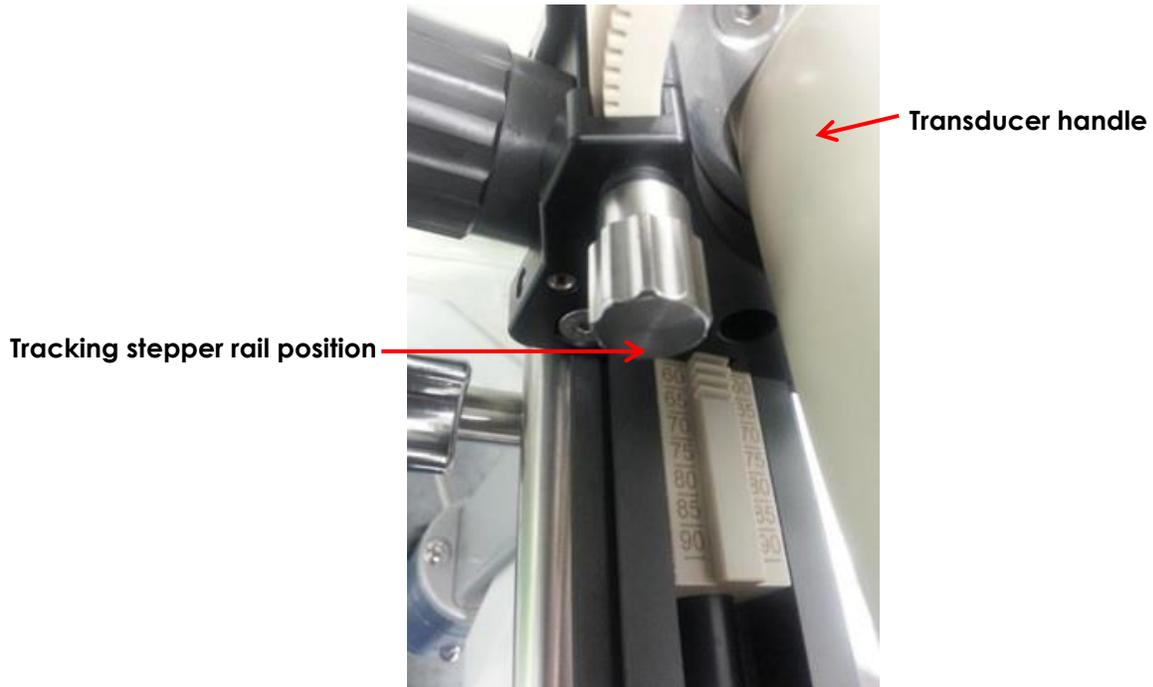

Figure 165: Tracking Stepper Rail Position
3. Advance the transducer along the *tracking stepper rail* to the point shown in Figure 165.